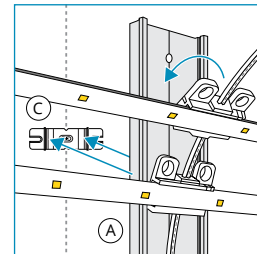
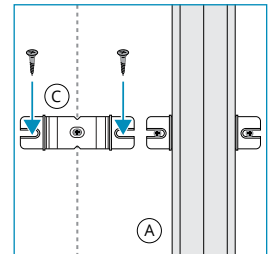

Figure 5
Figure 6
1. The wire mounting clips that are attached to the TRAX Array will snap securely into Rail (A) channels. Take the TRAX Array and snap it into Rails (Figure 5), ensuring TRAX is taught with LED bars laying flat. (Tip: To remove wire clips from Rails, insert a flathead screwdriver behind the clip and gently pry it loose.)
2. Take the entire assembly and snap it into the Rail Mounting Clips (C) on your application surface.
3. Once satisfied with placement, use mechanical fasteners to secure Rail Mounting Clips (C) to installation surface, eliminating any left or right movement of the clip (Figure 6).
4. For vertical applications, it is advised to apply the TRAX wire clip's adhesive backing to the Rails (A) at several points to eliminate any undesired movement from occurring over time.